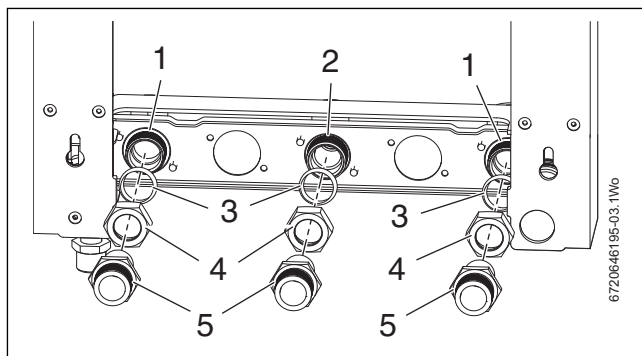

Fig. 26 CH and gas adapters fitting
- Refer to figure 26 and fit the nut and olive onto the adapter and mount onto the back of the isolators.